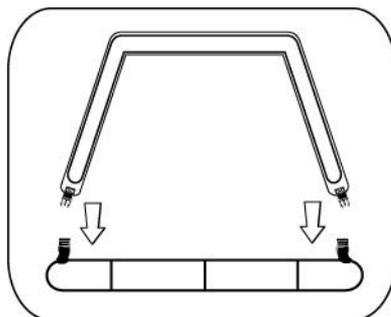

FIGURE 8
2. Clip male buckles on each end of support arch to mating female buckles on raft (See Figures 8 & 9). Ensure that the red oral tube is facing the inboard side of the life raft.